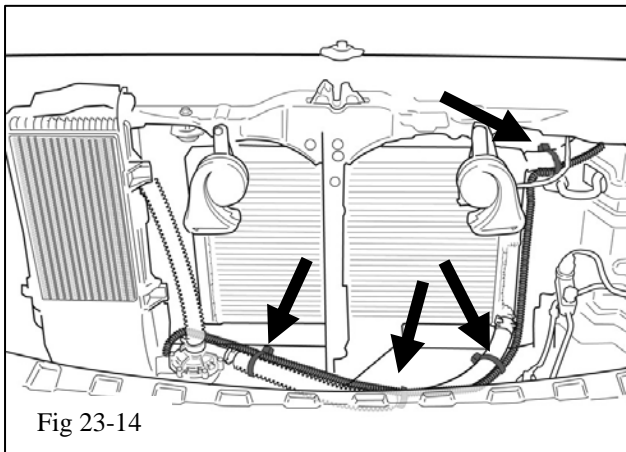

Fig 23-14
- (m) Continue down and across the 3/4" hose between the intercooler pump outlet and the LTR inlet (Fig 23-14).
- (n) Secure with short lock ties (A5) as shown. (Fig. 23-14)